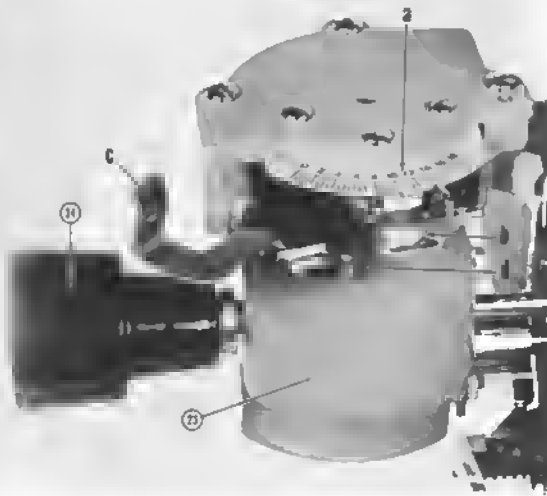

Figure 14
The DS VariTyper Machine writes at different spacings down the page, as well as across the page. The line spacing (vertical spacing) mechanism is called the **line spacing device (23)** (Figure 14). It can be set instantly to suit the many sizes of type and it permits flexibility in varying spacing between lines. Further explanations of its use are detailed on Page 21, as well as in other sections of the manual.
The line spacing device (23) has four parts (Figure 14); its dial (23a) is calibrated in half-point graduations between 0 and 18 points.